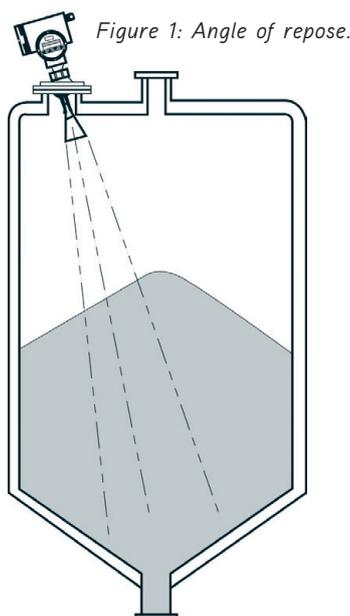

Figure 1: Angle of repose.
- **Surface dynamics** - The filling and emptying of the vessel results in a sloping top surface (the material has an 'angle of repose'), that makes it difficult to determine the 'average' top level (Figure 1). Also, particle size has an impact on the